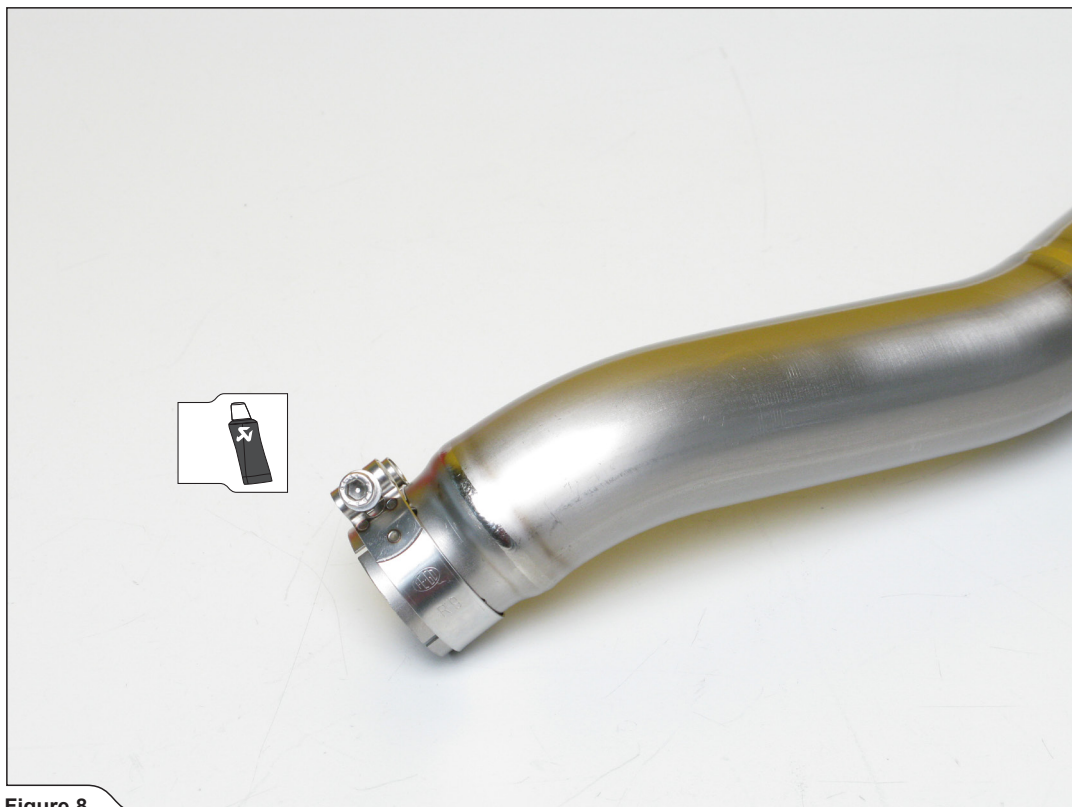

Figure 8
5. For Slip-On Megaphone only: instal Akrapovič metal clamp onto the megaphone, as shown (Figure 8).